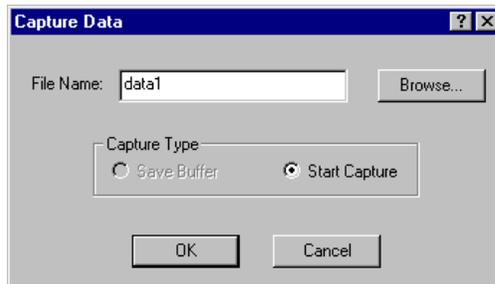

Figure 5-32. Capture Data to a File
1. Click Capture Data. A Capture Data dialog box is displayed (Figure 5-32).